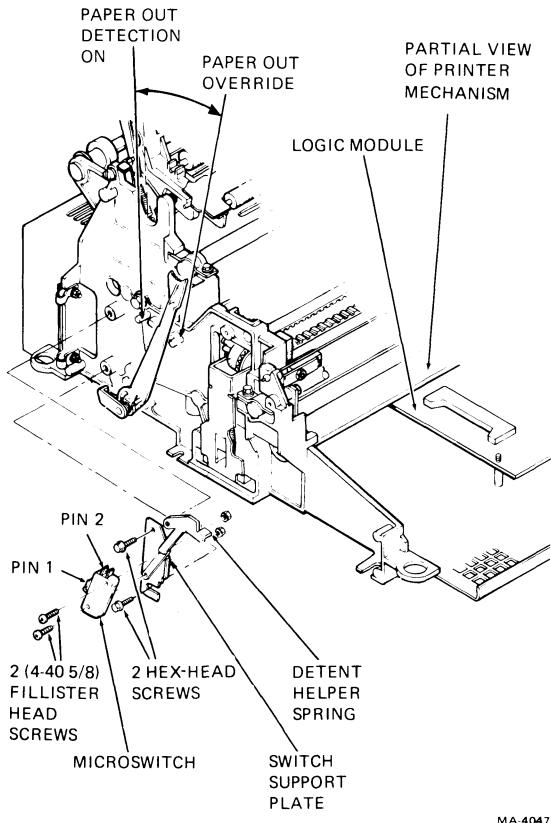

Figure 3-18 Paper Out Detection Switch Installation
11. Secure the microswitch and detent helper spring to the switch support plate using two (4-40 × 5/8) fillister screws and two (4-40) kep nuts (Figure 3-18).
12. Using a 1/4 inch open-end wrench, remove the top switch support plate hex-head screw and loosen the bottom switch support plate hex-head screw (Figure 3-18).
14. With the paper out override lever in the detect on position, adjust the switch support plate to activate (press) the microswitch (Figure 3-18). Using a 1/4-inch open-end wrench, tighten the hex-head screw on the bottom switch support plate.